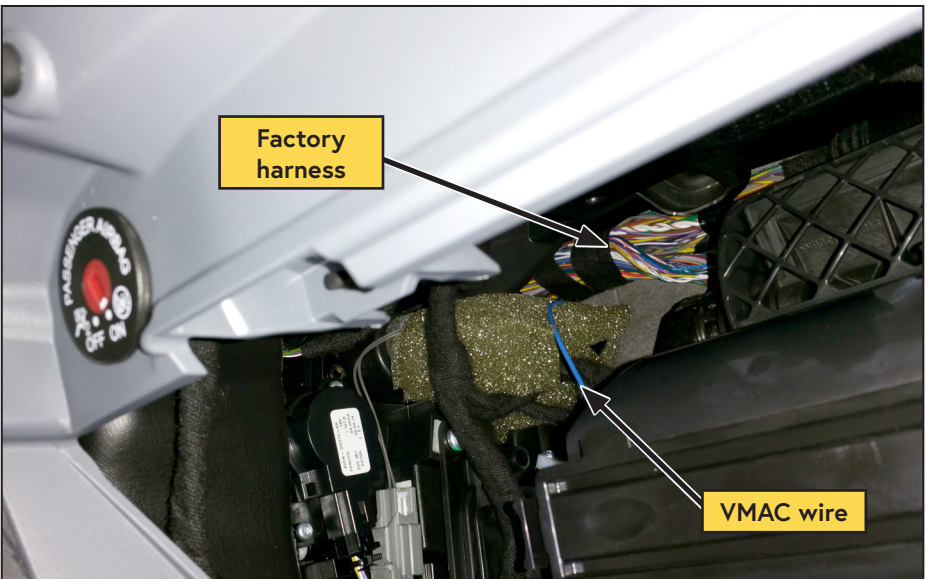

Figure 73 — Passenger dashboard
- Route the long blue wire from the Throttle Control above the driver side fuse box, along the factory wire harness located at the rear of the dashboard, to the passenger side of the dashboard. The wire will appear on the passenger side of the dashboard, above the HVAC system (Figure 73).